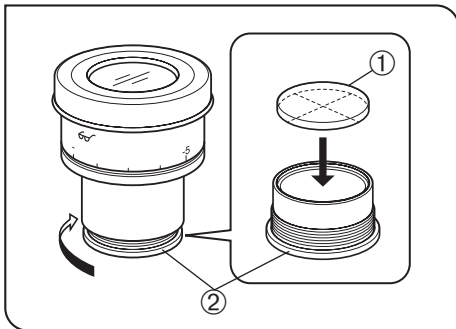

Fig. 37
4 Mounting the Eyepiece Micrometer Disk (Fig. 37)
(Fig. 37)
Following Fig. 37, turn the built-in micrometer-mounting frame ② to the arrow direction to remove it from the eyepiece and place a micrometer disk ① into the mounting frame so that the surface with the model indication faces downward.